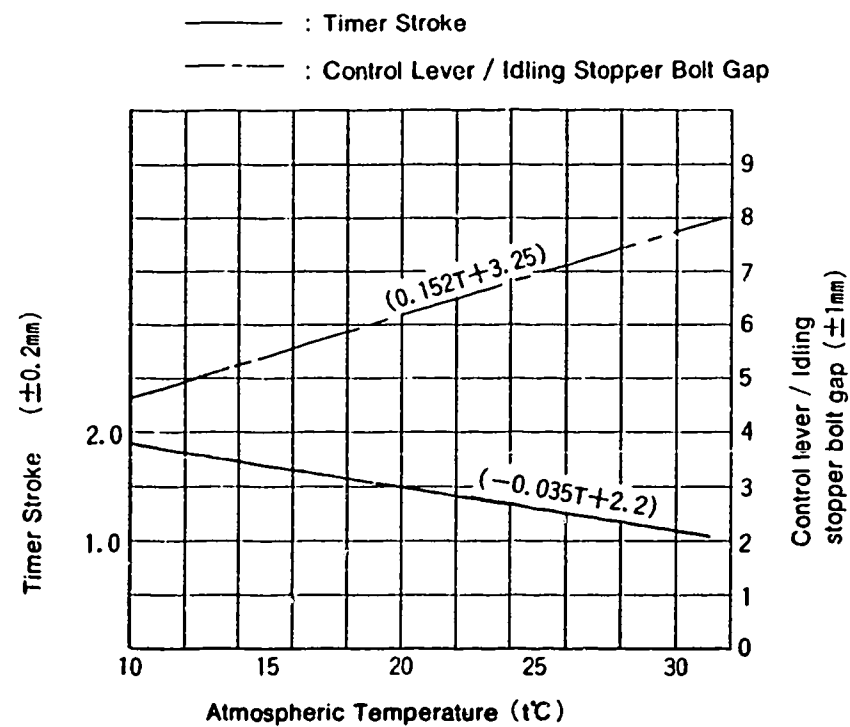

Fig. 2
- ① Using the graph (Fig 2) , determine the Timer Stroke according to the atmospheric temperature at the time of adjustment.
- ② Adjust using the Timer Stroke adjusting bolt so that the Timer Stroke corresponds to the value determined in note ① above.
- ① Insert a block gauge of 5.3 ± 0.05 mm thickness in the gap between the control lever and the idling stopper bolt.
- ② From Fig 2 determine the dimension of the gap between the idling lever pin and the control lever according to the atmospheric temperature at the time of adjustment.
- ③ Adjust using the fast idle adjusting screw so that the gap corresponds to the value determined in note 2) ② above.